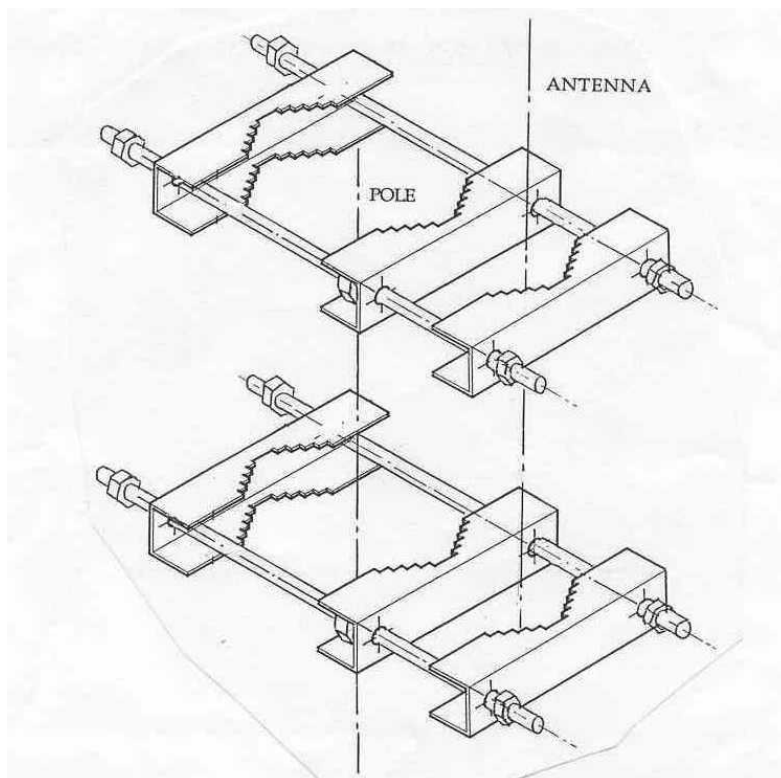

Figure 1: Bracket Assembly
1. Identify the parts and how they look when fully assembled, as shown in Figure 1 below: